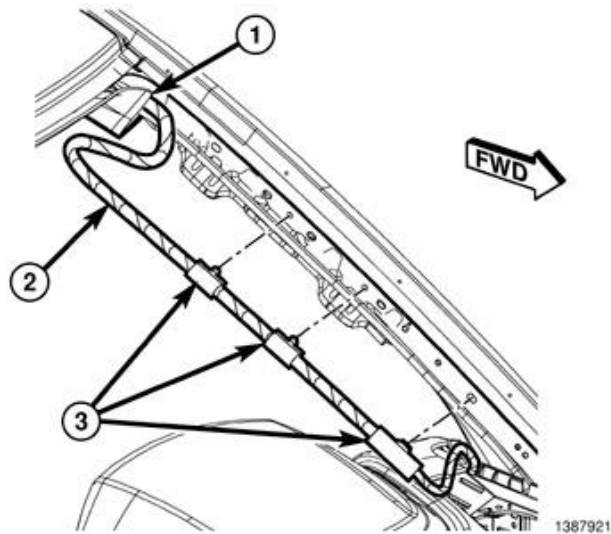

Figure 36 – Headliner Harness
32. As necessary, release the headliner wiring harness clips (3) from the A-pillar to allow enough wiring harness slack for lowering the headliner (Figure 36).
52. Reattach any headliner wiring harness clips (3) removed from the A-pillar to allow slack while lowering headliner (Figure 36).